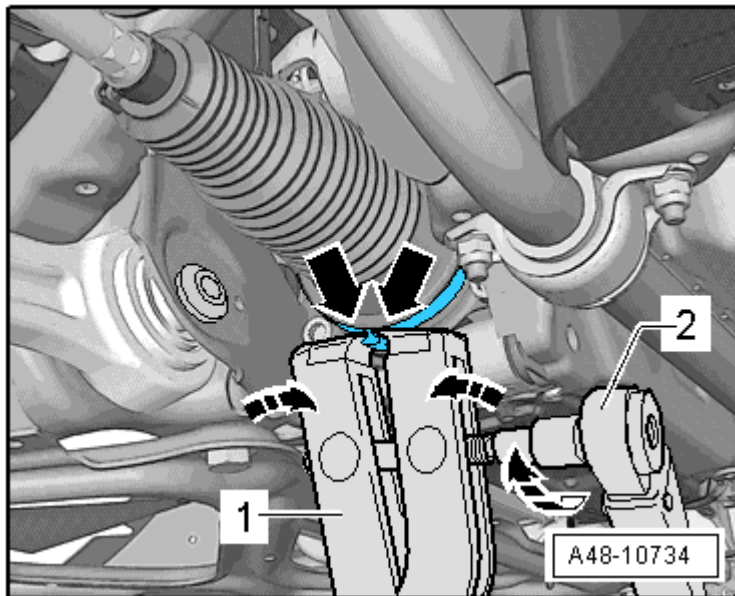

Fig. 12: Tensioning Inner Clamp
- Use the CV joint boot clamp tool to tensions the clamp. Refer to **Fig. 12**.